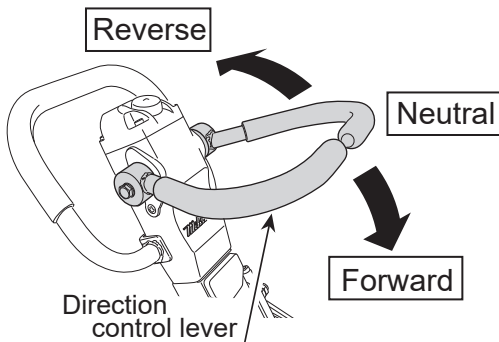

Fig.17
- 2 Use the back and forth movement direction control lever to make the machine move backward and forward. When the direction control lever is pushed forward, the machine moves forward, when pulled backward, the machine moves backward. At neutral, the machine vibrates staying at the same location. (Fig.17)